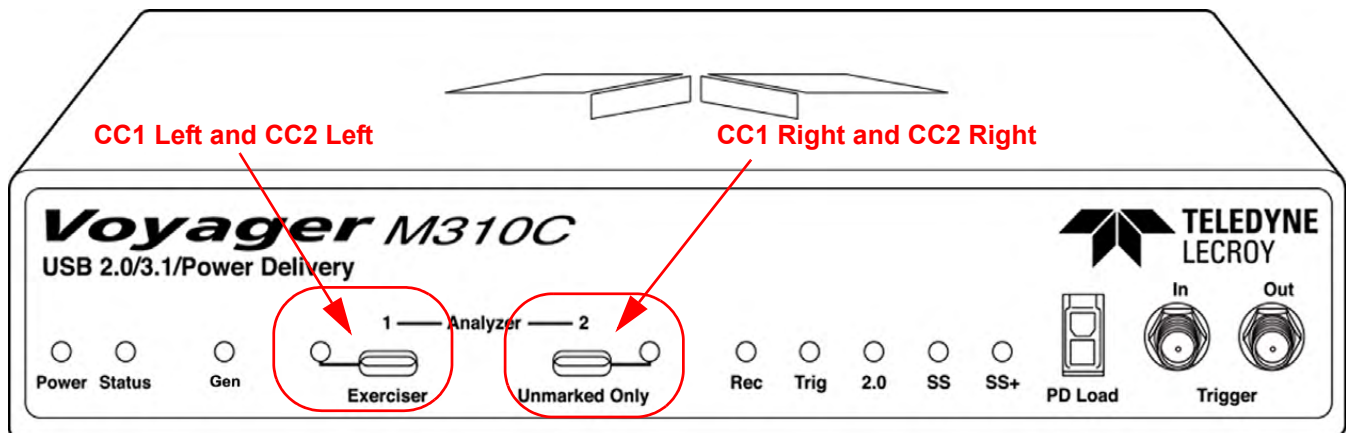

Figure 10.64: Voyager M310C: Front Panel View
The USB Type C cable supports two Configuration Channel (CC) pins: CC1 and CC2. The Voyager M310C has two Type C connections: one on the left of the front panel (Connector 1) and one to the right (Connector 2). See Figure 10.64.